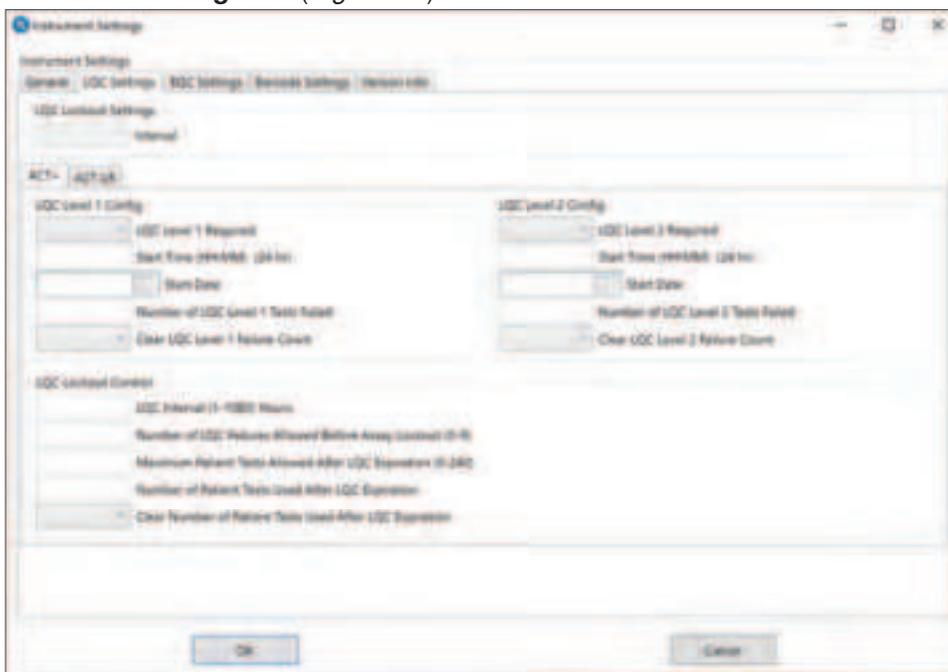

Figure 58: Clear an LQC Lockout in CCM
- 1 Select the **LQC Settings** tab (Figure 58).